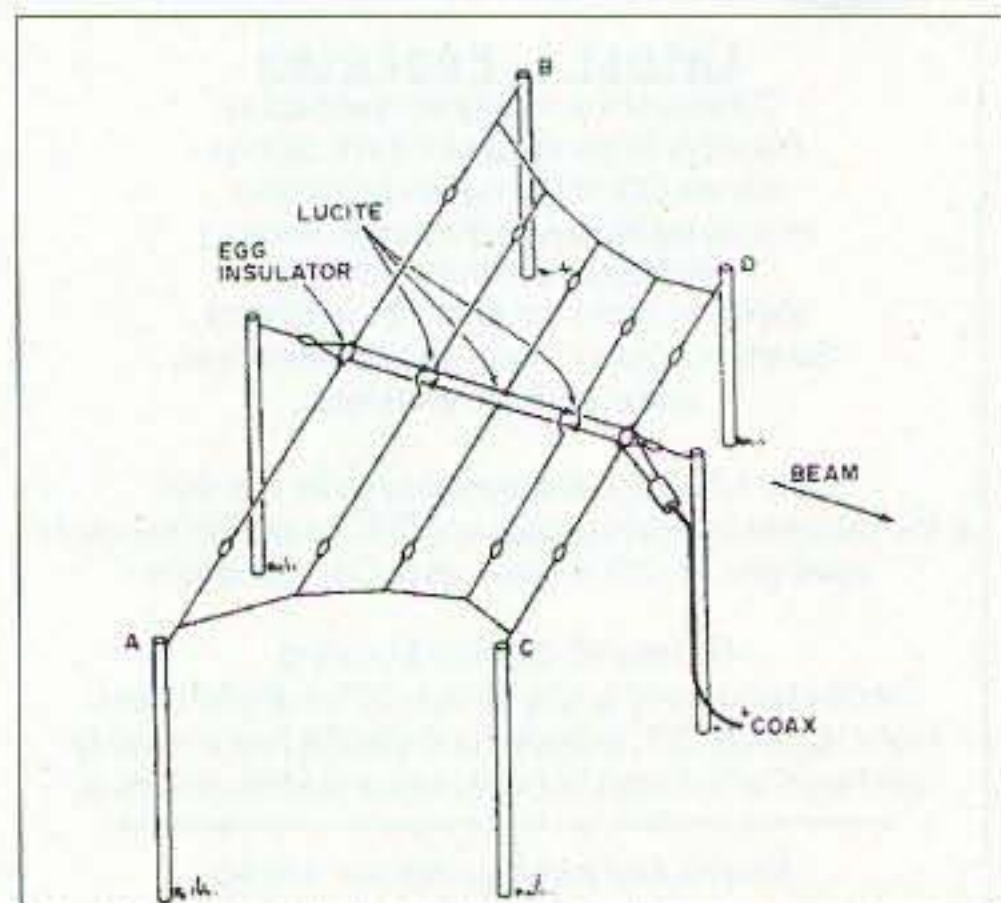

Fig. 6. Five-element monoband log periodic — fine for any band 10 through 80m — see the Aug. and Sept. 1973 issues of 73 Magazine for details.
**Fig. 6** illustrates a simple 5-element monoband LP that requires the least space. This is especially adapted for 40m. (See reference 18 for complete information.)